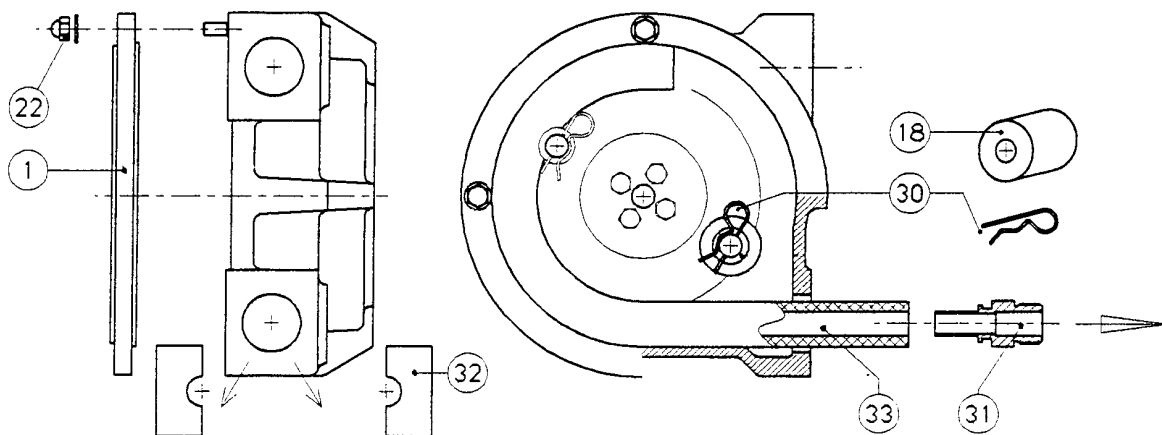

Figure 4.2 - Replacing the Tubular Element: Models S5, S10, and S16
4.2.1 Tubular Element Removal - Models S5, S10, and S16 (See Figure 4.2)
4.2.2 Tubular Element Installation - Models S5, S10, and S16 (See Figure 4.2)
- a. Lubricate the connection (31) and insert it into one end of the tubular element (33) all the way against the shoulder.
- b. Lubricate the outer wall of the tubular element (33) along the area that will be in contact with the housing and the rollers (18).
- c. Insert the end of the tubular element (33) without the connection (31) through the bottom opening. Slide the tubular element around the stator housing and out through the top opening.